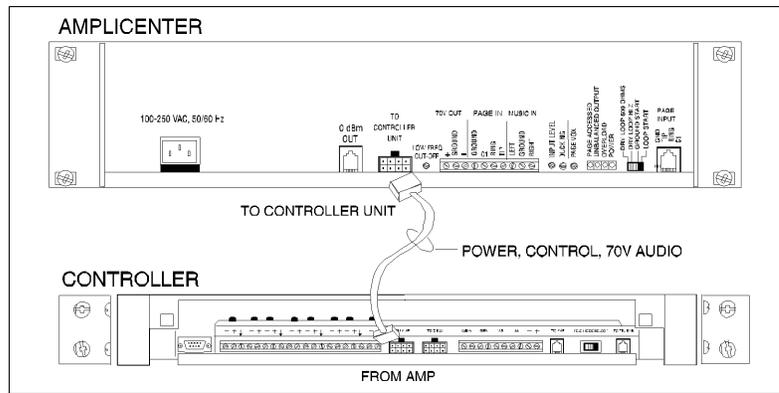

Figure 5. 8-pin Molex Connector from AmpliCenter to Controller
4. Connect 8-pin Molex connector from AmpliCenter to Controller (see Figure 5).